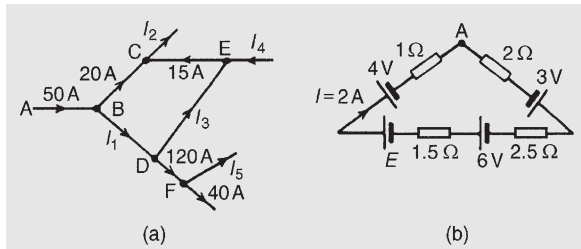

Figure 13.3
Problem 1. (a) Find the unknown currents marked in Fig. 13.3(a). (b) Determine the value of e.m.f. E in Fig. 13.3(b).
(i.e. in the opposite direction to that shown in Fig. 13.3(a))
- (b) Applying Kirchhoff's voltage law and moving clockwise around the loop of Fig. 13.3(b), starting at point A: